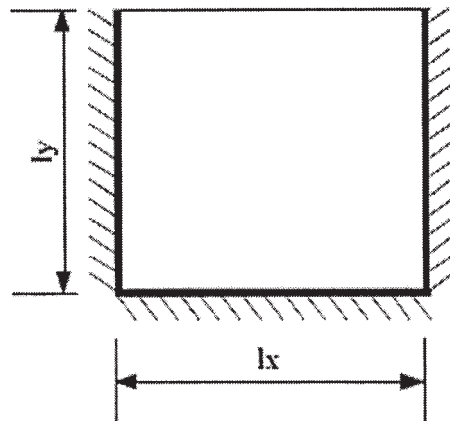

Fig. 3
- Q6)** Design the simply supported rectangular slab shown in Fig.3. The factored load may be taken as 9kN/M^2 . Use M20 grade of concrete and Fe 500 grade of steel. Take $l_x=4.0\text{ m}$ and $l_y = 1.9\text{m}$ [18]